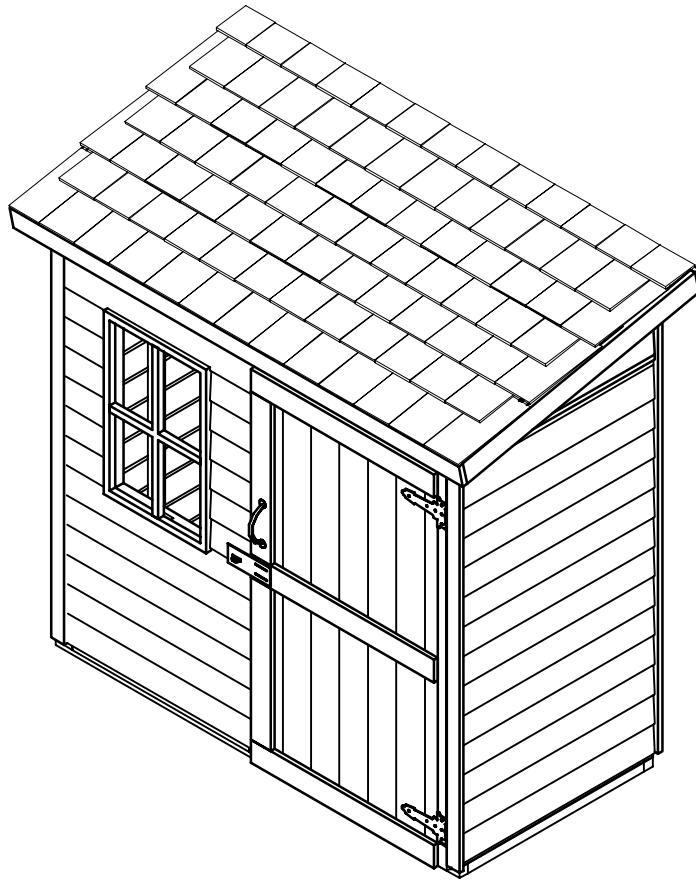

FIGURE S14
- Slide the roof from the short wall side of the Banff on to the top of the wall panels. Be sure to place the roof panel so that the roof panel rafters sit right over top of the gable ends. You can center the roof giving the tall wall sections some overhang or you can pull the roof panel as far to the short side wall as possible thus giving the tall walls very little over hang. This may be dictated by where the Banff is being placed. See Fig. S14 for details.